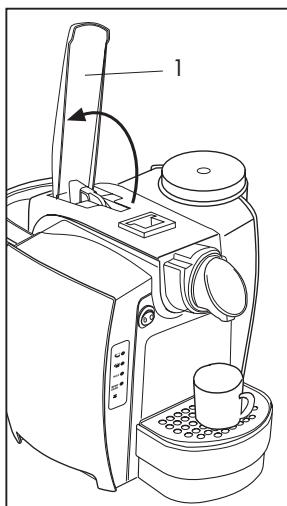
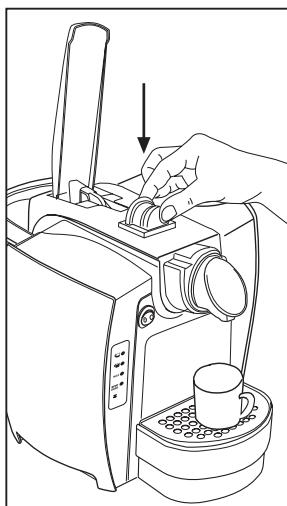

Fig. 9
Fig. 10
- Lift the control lever (1) backward (up to stop point) (**Fig.9**) and insert a capsule in the dedicated housing (**Fig.10**)